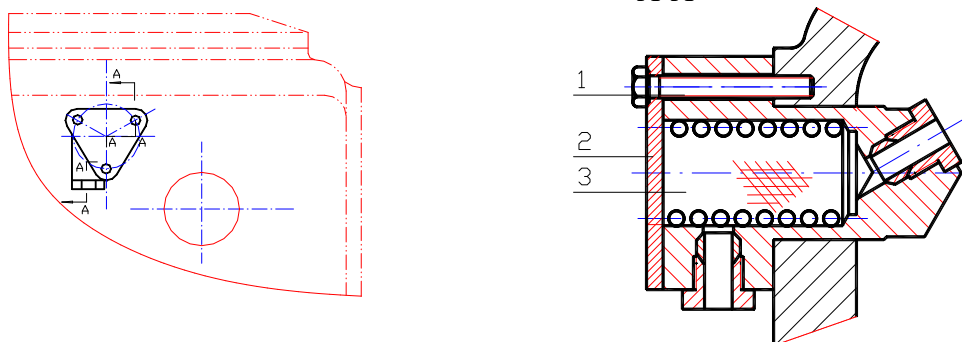

Fig. 34 Oil filter of headstock
- The copper filtering net of the oil filter at entering oil position of the headstock should be weekly cleaned for ensuring of lubricating oil see Fig. 34. Operating steps are as follows.
- ① Screw out the screw (1) and take down the trigonal cover (2).
- ② Wash the copper net (3) in cleaning kerosene, then, re-install it in the oil filter.
- ③ Cover the trigonal cover (12), screw up the screw (1).
kerosene. For the washing method, refer to Fig.34 of “Maintenance” of the machine.